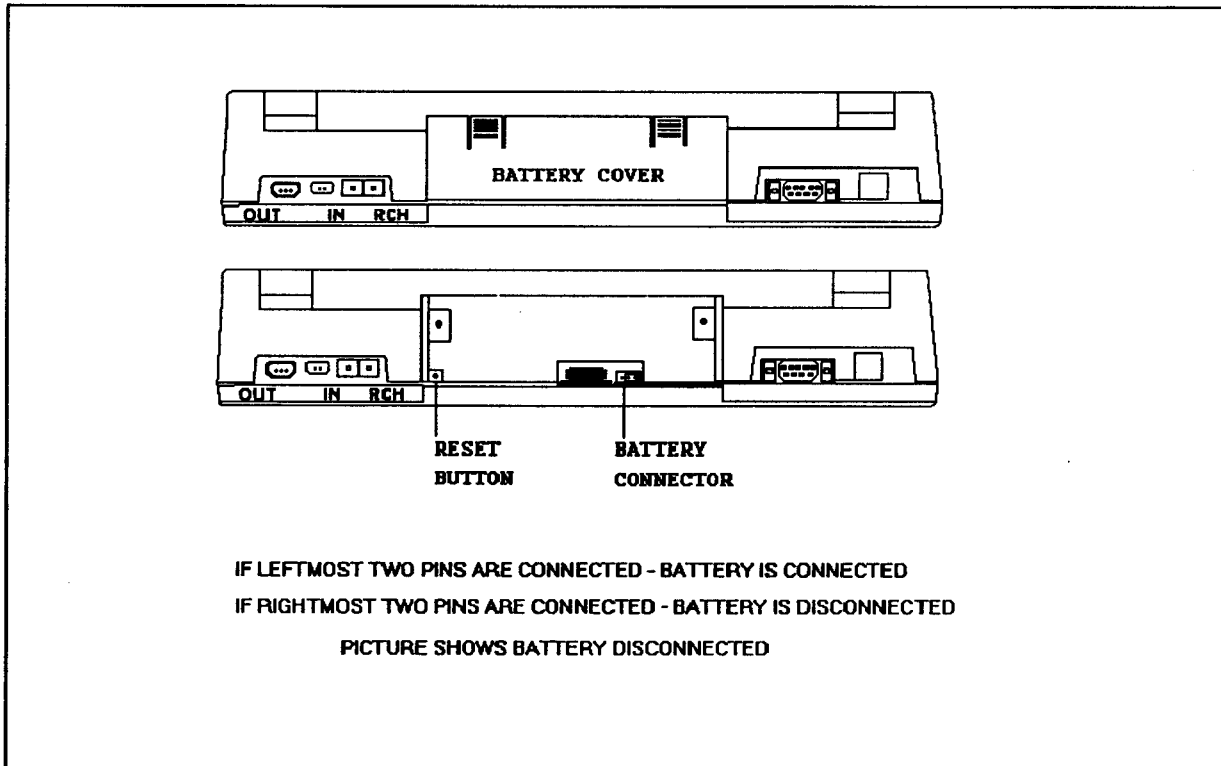

Figure 2-96
1. Remove the battery cover from the back of the computer (see Figure 2-96).